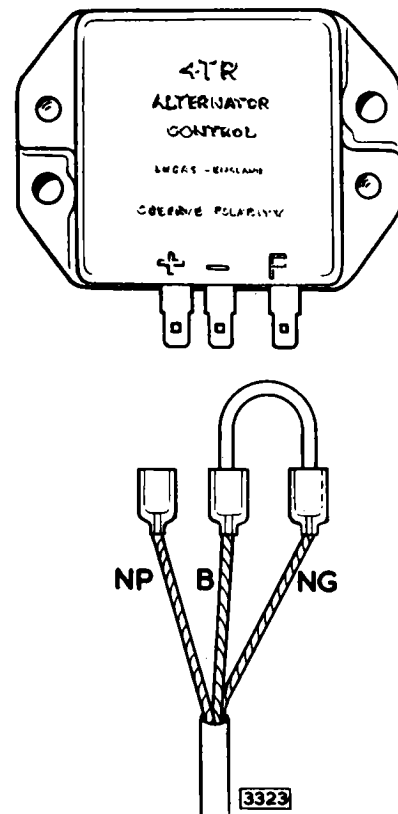

Fig. 3. Detach the terminal connectors from the base of the control unit.
3. Detach the terminal connector block from the base of the control unit and connect the black and brown/green cables together by means of a short length of cable with two Lucar terminals attached. This operation connects the alternator field winding across the battery terminals and by-passes the output control unit (Fig. 3).